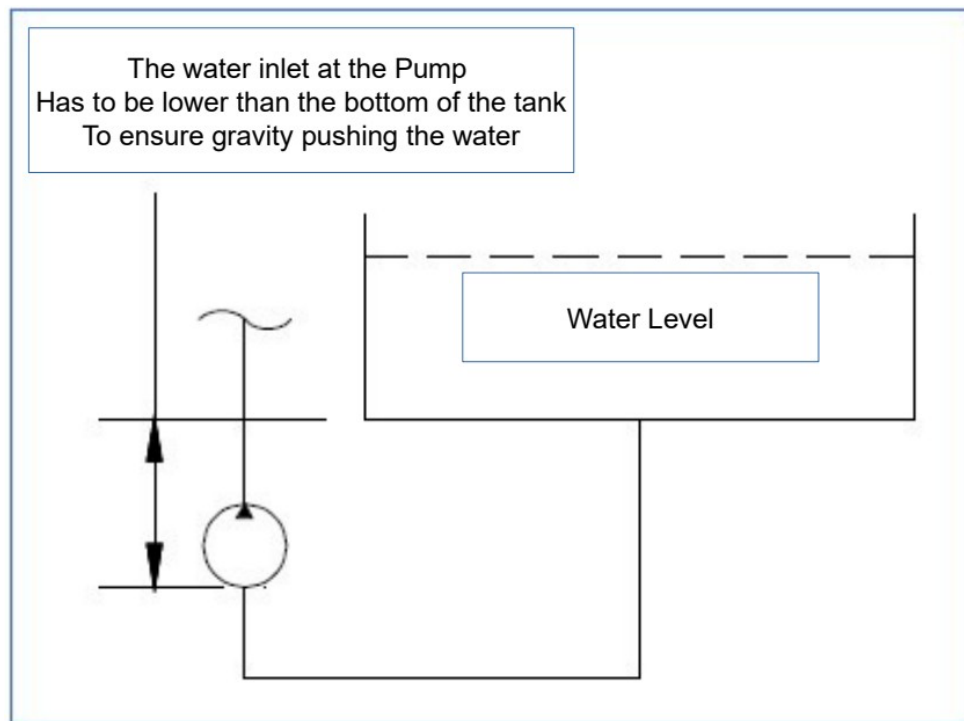

Figure 4.3 – Gravity Feeding Source
2. Gravity feeding water source (See **Figure 4.3**). Use a hose with a diameter of at least 1-1/2" to connect the water tank to the power unit